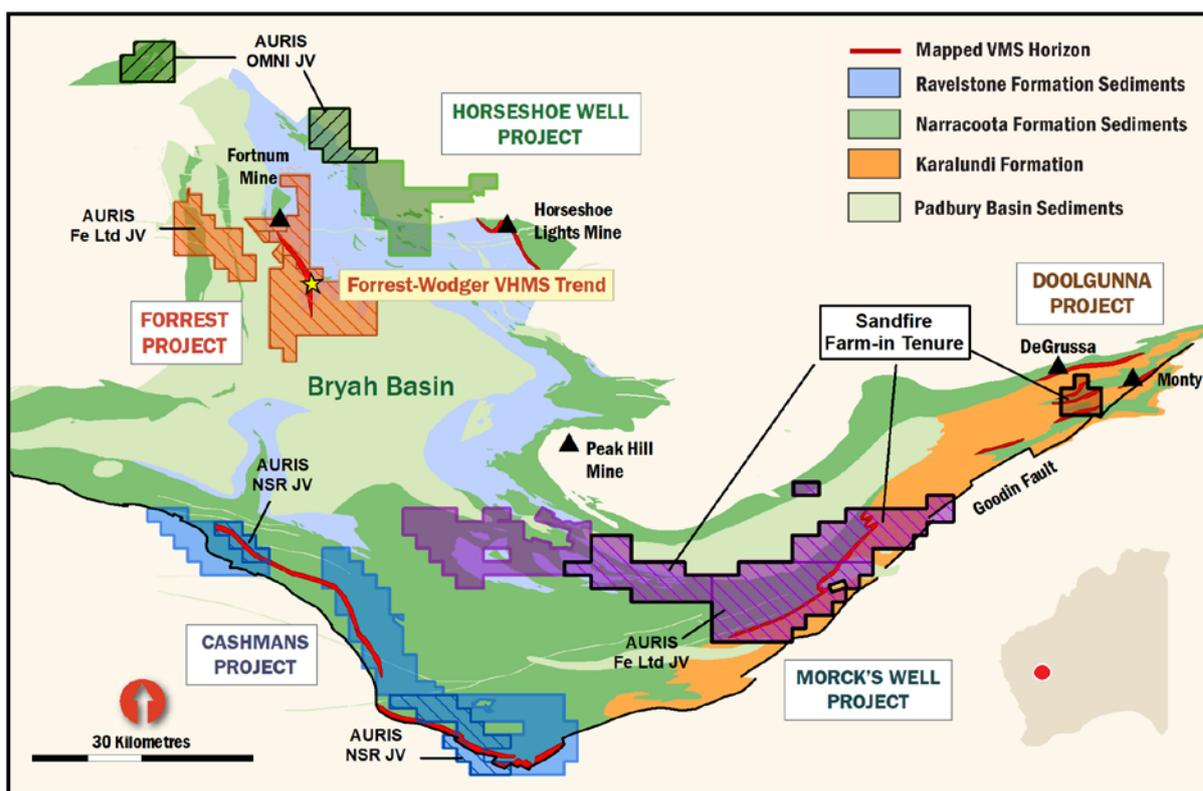

Figure 3: Auris's copper-gold exploration tenement portfolio, with Sandfire, Northern Star (NSR), Fe Ltd and OmniGeoX JV areas indicated.
1. The Forrest Project tenements (Figure 3) have the following outside interests:
3. The Horseshoe Well Project tenements E52/3248, E52/3291, E52/2509 (Figure 3) have the following outside interests: